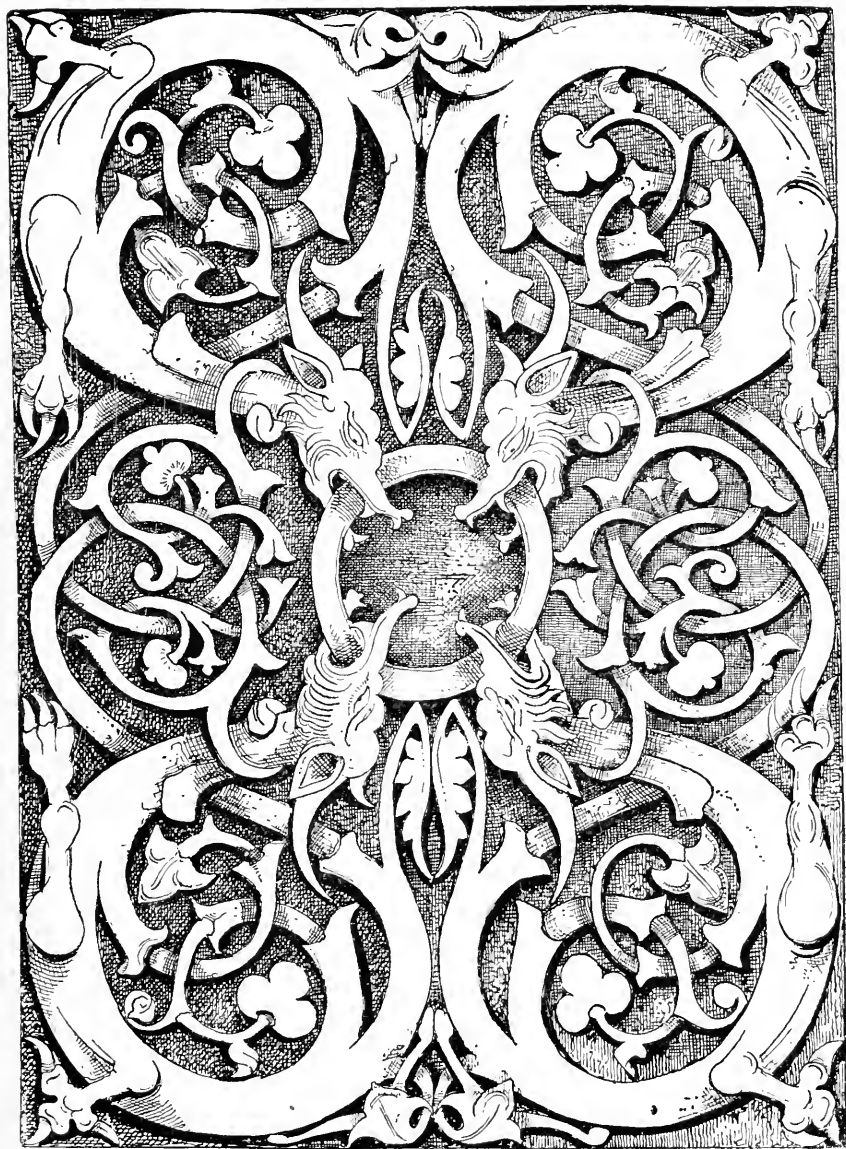

Fig. 70. ALBUM COVER.
*Albums, Portfolios, Book-covers.* These are panels, and afford an infinite range of design and effects in wood-carving. They may be very beautifully and easily ornamented in mere stamping and outlining (*vide* Lesson II.), or by putting in diaper grounds, or basket-work, or by very low relief carving, in which case there should be a border in a little higher relief to protect the pattern from being rubbed, Fig. 70.